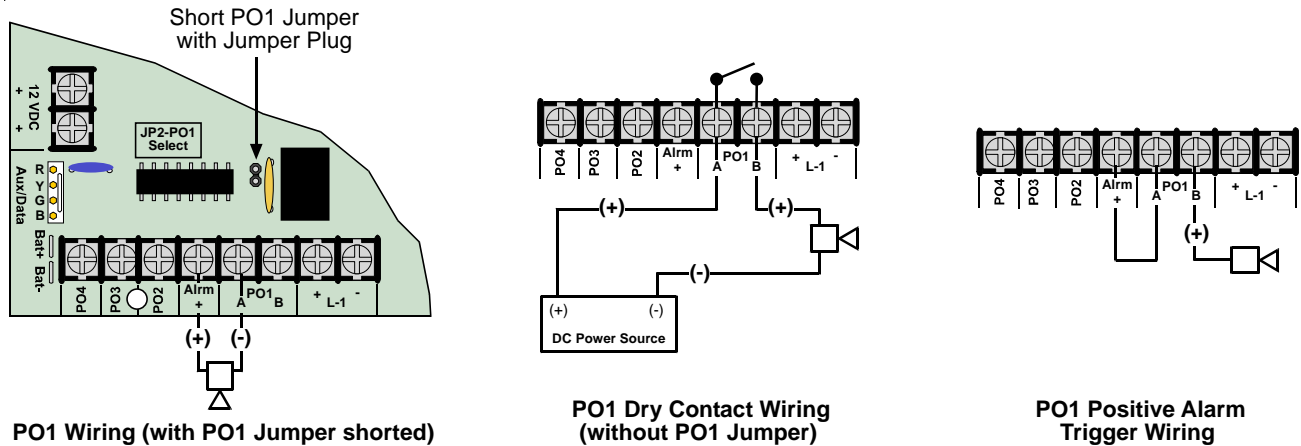

Figure 24: PO1 Wiring
- **PO1:** PO1 terminals can be configured as an alarm power output. JP2-PO1 Jumper must be closed. The default configuration for PO1 makes it a dry contact, Normally Open relay with PO1 Jumper open (see *Figure 24*).